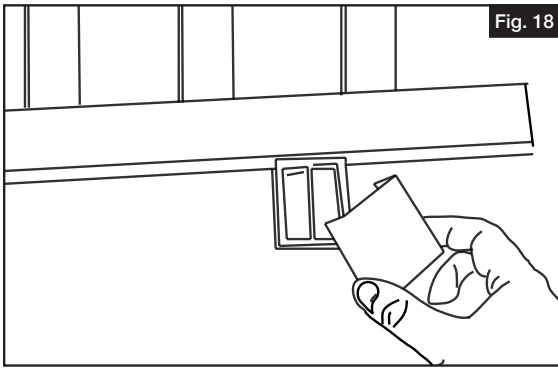

Fig. 18
- a. Attach the crush block to the deck surface using support foot screw and snap the cover into place (Fig. 18).